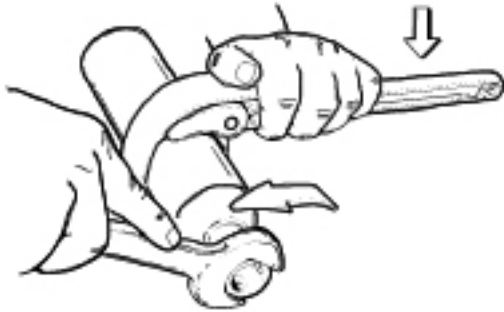

Figure 11 - Removal of cylinder adapter
2. Place the bottle in a bottle vise (PN 100397), vise insert (100398), or place a cloth or rubber strap wrench onto the cylinder (34) to hold it secure. (see Figure 11).
3. While holding the cylinder secure with the strap wrench, apply a 1 1/8" open-end wrench to the adapter (32), and turn counterclockwise to loosen and remove the adapter from the cylinder. Remove and discard the O-ring (33).